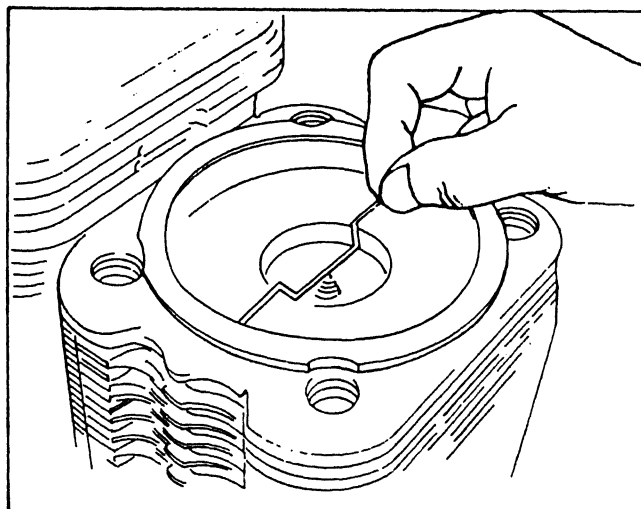

Figure 5-56. Checking Piston To Cylinder Head Clearance
- (1) Make sure cylinders are aligned.
- (2) Coat a piece of 2mm resin core solder with grease and place it in position on piston crown at right-angles to center line of engine, as shown in figure 5-56, but not on any stenciling on piston.